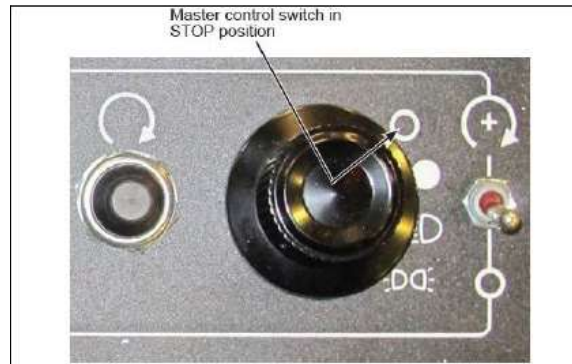

Figure 1 – Master Control Switch in STOP Position
1. Park the vehicle on an even surface with transmission on neutral (N) and apply the parking brake.
2. Set the Master Control Switch in STOP position (see figure 1).